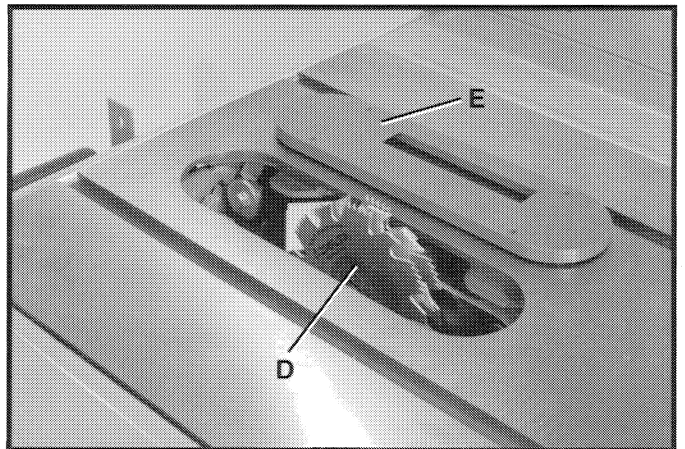

Fig. 99
The dado head set (D) Fig. 99, is assembled to the saw arbor in the same manner as the saw blade. The guard, splitter, and anti-kickback finger assembly cannot be used when dadoing and must be removed from the saw. In place of the guard, auxiliary jigs or fixtures and push sticks and featherboards should be used. Also, the accessory dado head table insert (E) Fig. 99, must be used in place of the standard table insert. Fig. 100, shows a typical dado operation using the miter gage as a guide.